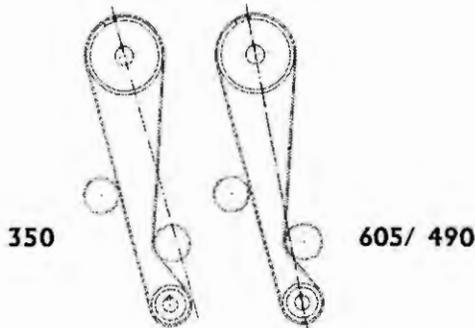

Figure 4.16
- the top and bottom sprockets according to Figure 4.16.